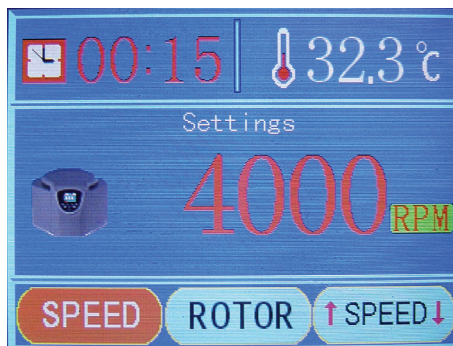

Figure 4 – Entering the first adjustment panel
- 7.6.2. Press the “ SET” button to enter the first adjustment panel (**Figure 4**), or touch the screen and click the rotating speed area to enter the same panel.